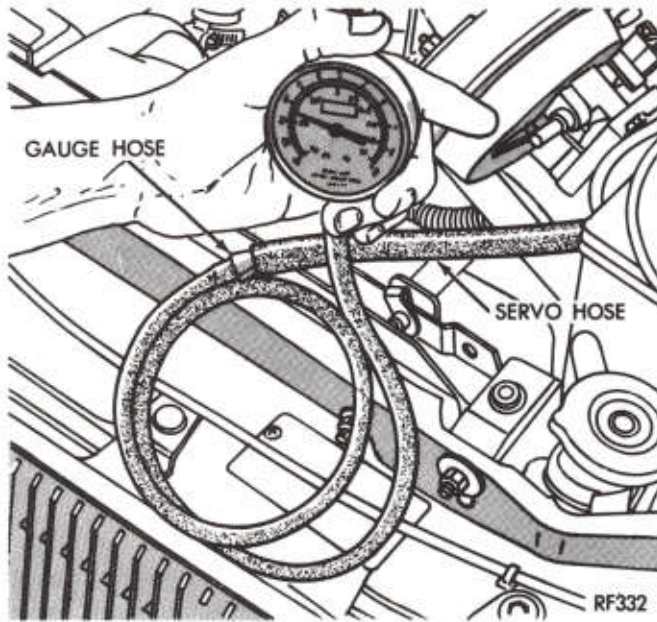

Fig. 6—Vacuum Gauge Test
(1) Disconnect vacuum hose at the servo and install a vacuum gauge in the hose (Fig. 6).
(2) Start engine and observe gauge at idle. Vacuum gauge should read at least ten inches of mercury.
(3) If vacuum does not meet this requirement, check for vacuum leaks or poor engine performance.